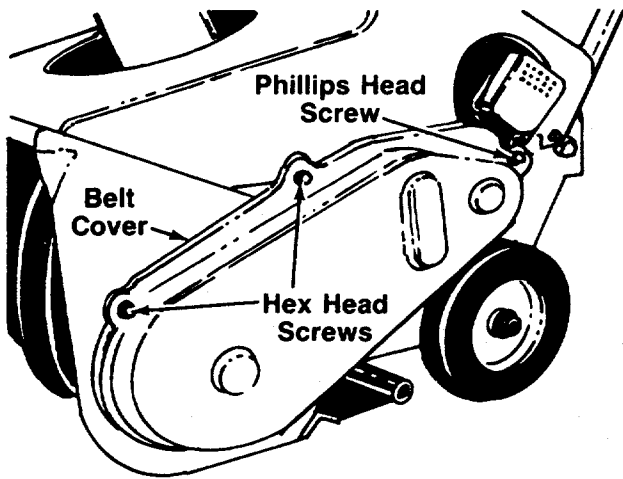

FIGURE 8.
1. Remove the belt cover by removing three screws with a 3/8" wrench and one screw with a Phillips screwdriver. See figure 8.